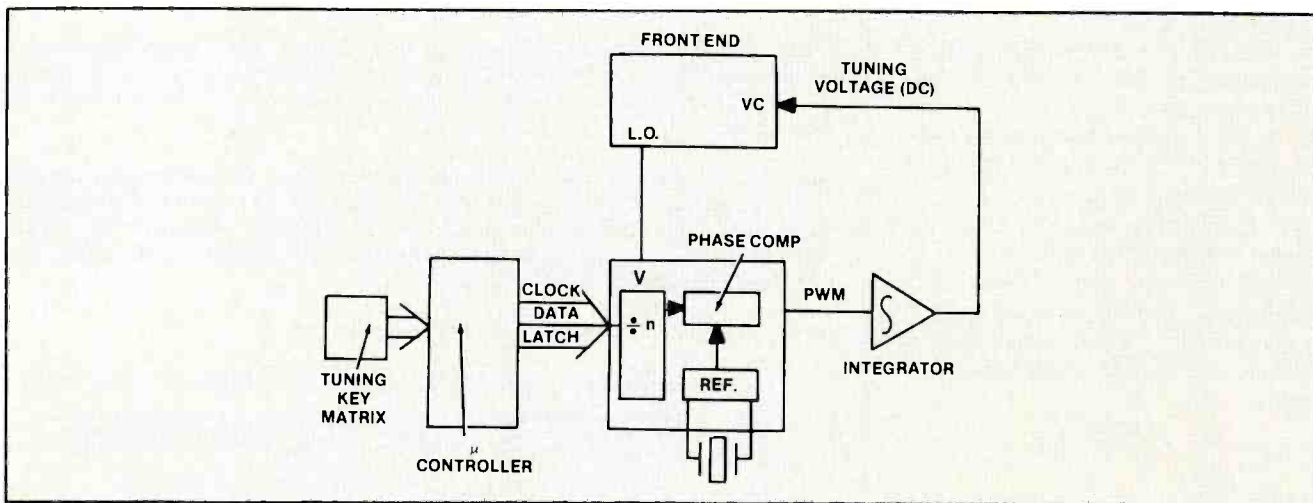

Figure 1. The PLL high-fidelity FM receiver employs a loop to both sample and alter the local oscillator, which is phase-compared to a stable crystal reference.
Figure 1 shows a generalized version of the PLL high-fidelity FM receiver. Of course, like almost everything else nowadays, it's a loop. A sample of the local oscillator (LO) is divided by an integer value chosen via the microcontroller. This frequency is then phase-compared to a stable crystal reference to produce a correction voltage that biases the varactor diodes to the proper capacitance for the LO frequency desired. Notice that the PLL both samples and alters the LO. That's what makes it a loop.
Figure 1 is a block diagram of the major subsystems in a typical microcomputer. When you encounter a problem with a computer, the first step in solving the problem is to examine the symptoms and ask yourself, "Given this symptom (or set of symptoms), what circuit is the most likely to be the cause?"
**Figure 1.** This block diagram of the major subsystems in a typical microcomputer gives you an idea of which circuits are most likely to be the problem behind a particular symptom.